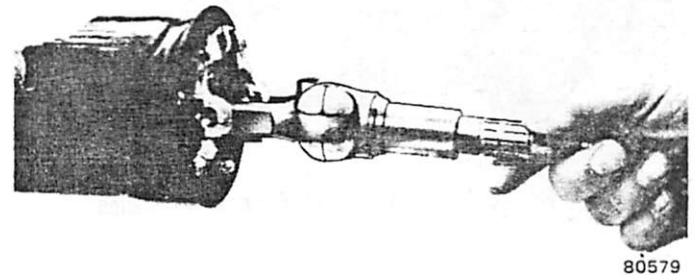

Fig. 2J-58 Steering Shaft Removal/Installation
(40) Remove support attaching bolts and remove support (fig 2J-59). Use 1/4-inch, 12-point deep socket to remove bolts.